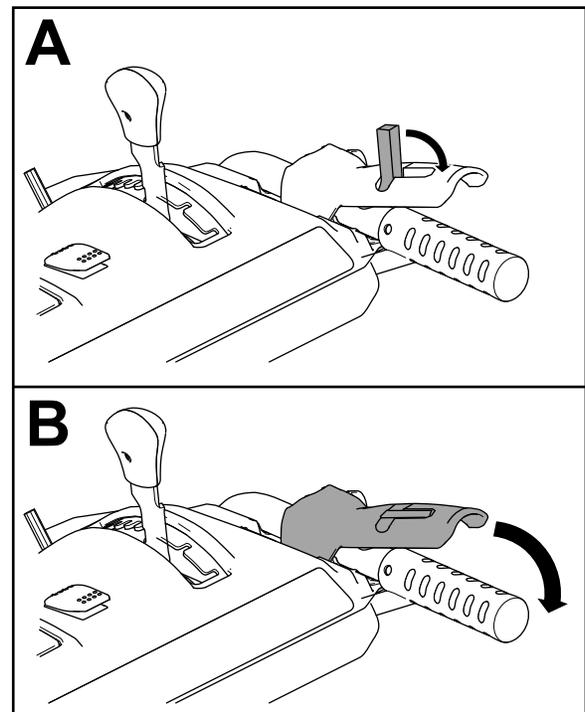

Figure 23
1. To engage the auger/impeller drive, move back the lock switch on the lever, then squeeze the right (auger/impeller) lever to the handgrip (Figure 23).